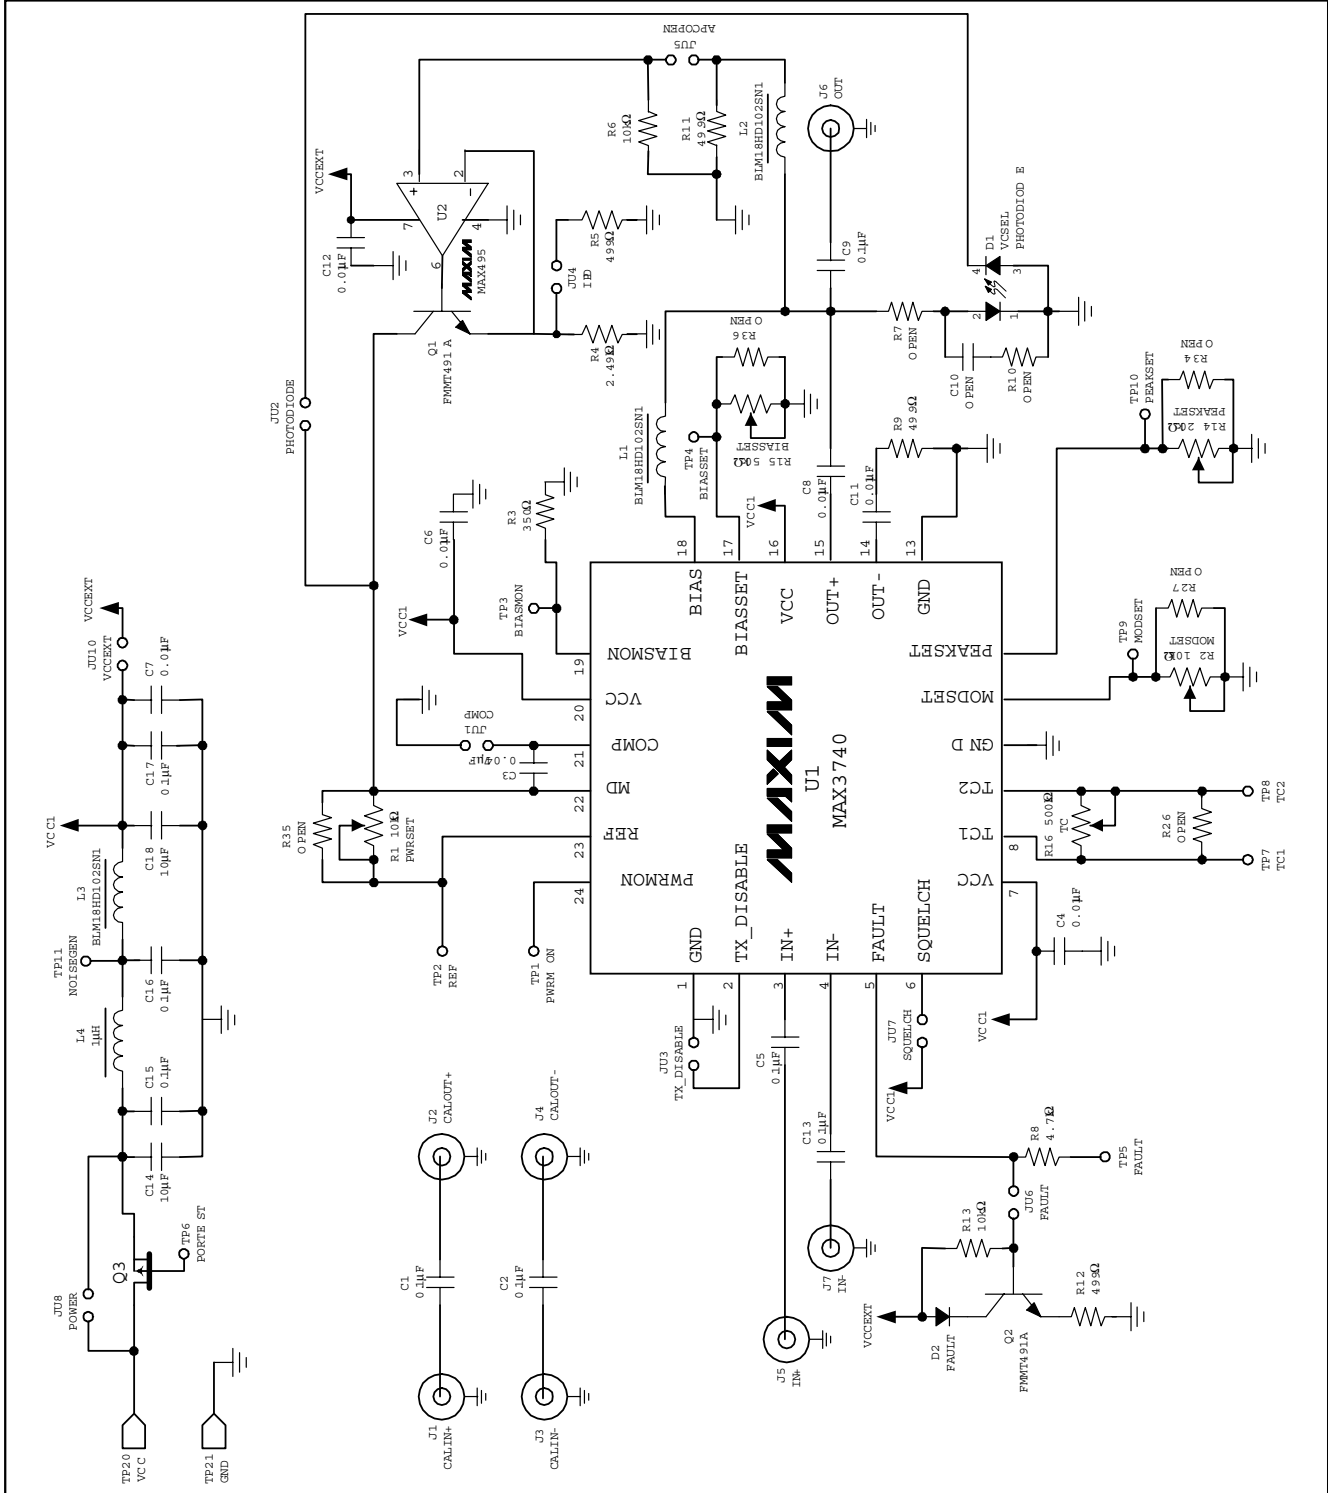

Figure 1. MAX3740 EV Kit Electrical Schematic
- 5) Connect a common-cathode VCSEL as shown in Figure 1. Keep leads short to reduce reflection.